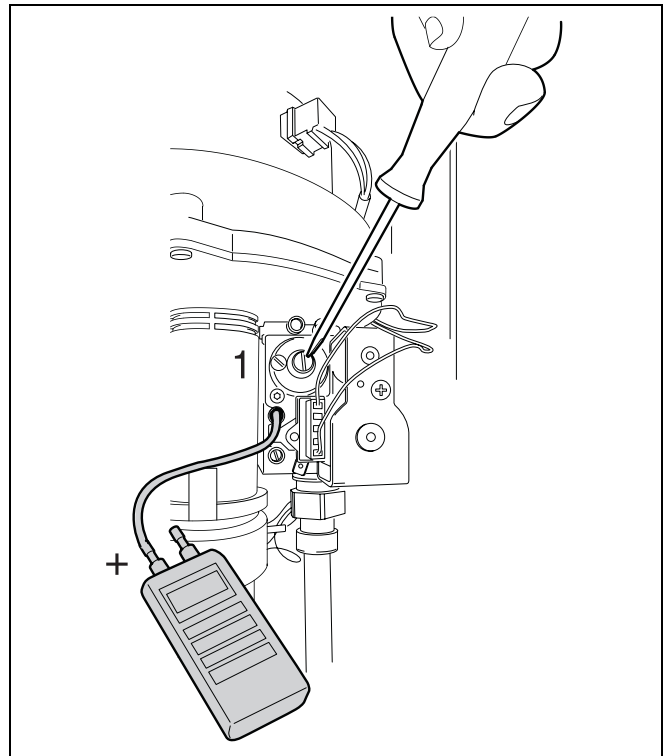

fig. 57 Adjust gas/air ratio
- Remove the safety screw with a flat head screwdriver (fig. 57, item 1).
- Replace the safety screw (fig. 57, item 1).